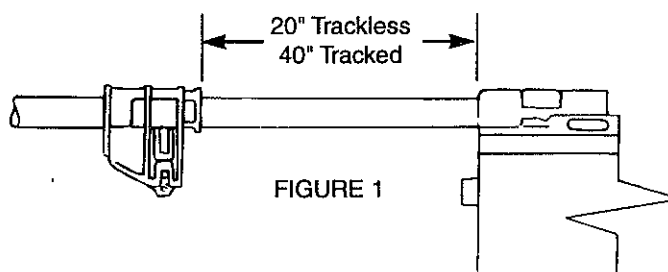

FIGURE 1
- 8.) Bring the TRAVELER and TRAVELER CARRIER back to its original setting (as when first installing the opener). Set the TRAVELER 40 inches (102 cm.) from the POWER UNIT for "TRACKED" doors, or 20 inches (51 cm.) from the POWER UNIT for "TRACKLESS" doors. Please see Figure 1 below.